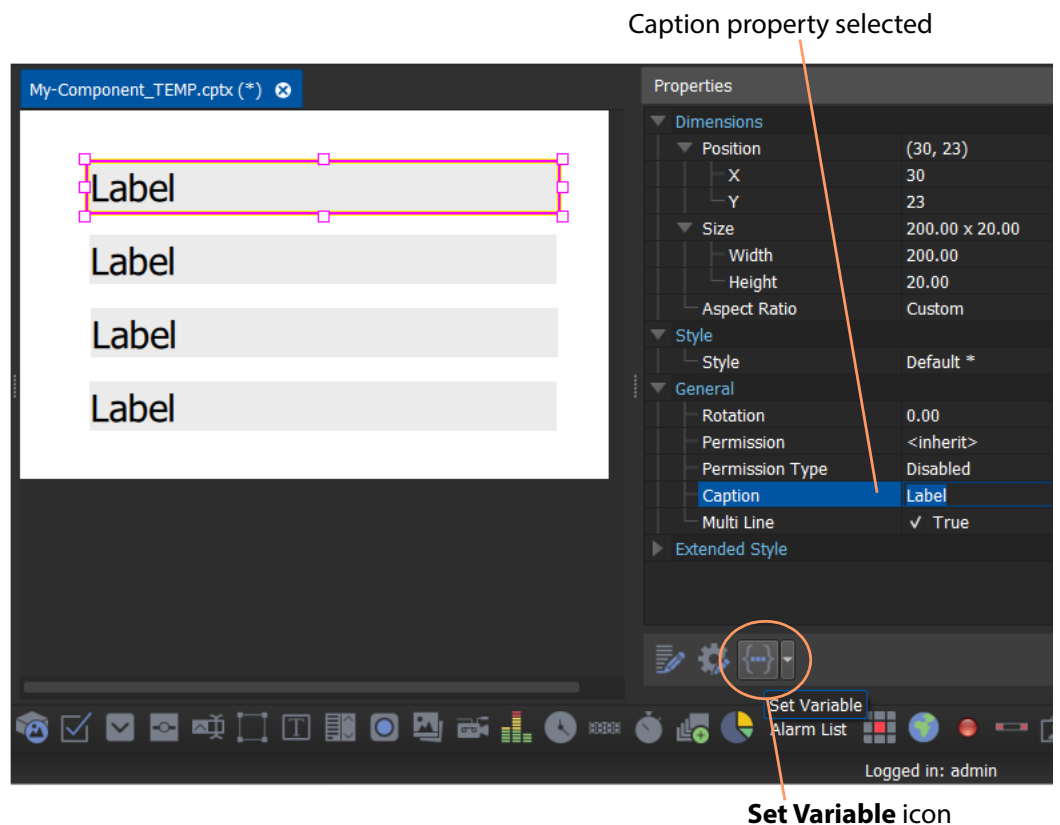

Fig. 4-38: New-Component: Selected Label Widget and Caption Property Value
- 1 Select the first **Label** widget on the component; and then select its 'Caption' property value in the **Properties** box. See Figure 4-38.